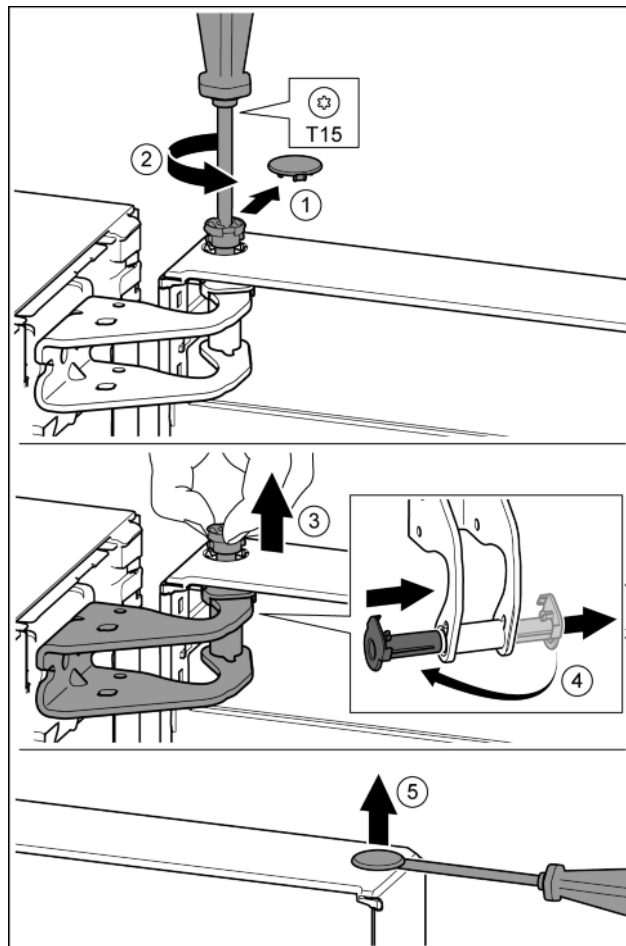

Fig. 12
- Carefully remove the protective cover. Fig. 12 (1)
- Undo the bolt a little with a T15 screwdriver. Fig. 12 (2)
- Hold the door and remove the bolts with your fingers. Fig. 12 (3)
- Pull the bearing bush out of the guide. Insert from the other side and click into place. Fig. 12 (4)
- Carefully lift the plugs out of the door bearing bush with a slotted screwdriver and remove. Fig. 12 (5)